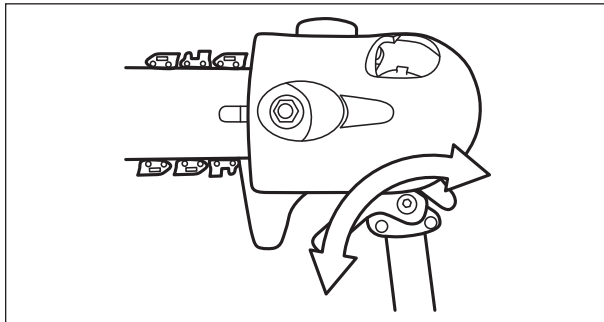

Fig. 17b
- b). Adjust the pruner head to required position and then release the locking lever (D8). (See Fig. 17b)